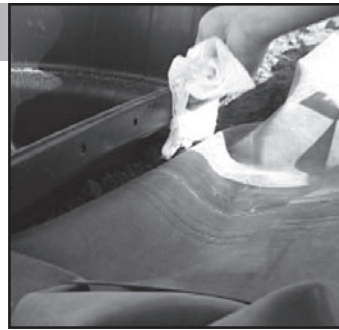

Fig. 5 Use a damp towel to clean surfaces.
- Prior to installing the waterfall lip make sure the face of the MicroFalls® filter and liner is clean and free of dust and debris. Use a damp towel to clean both surfaces. (See fig. 5)